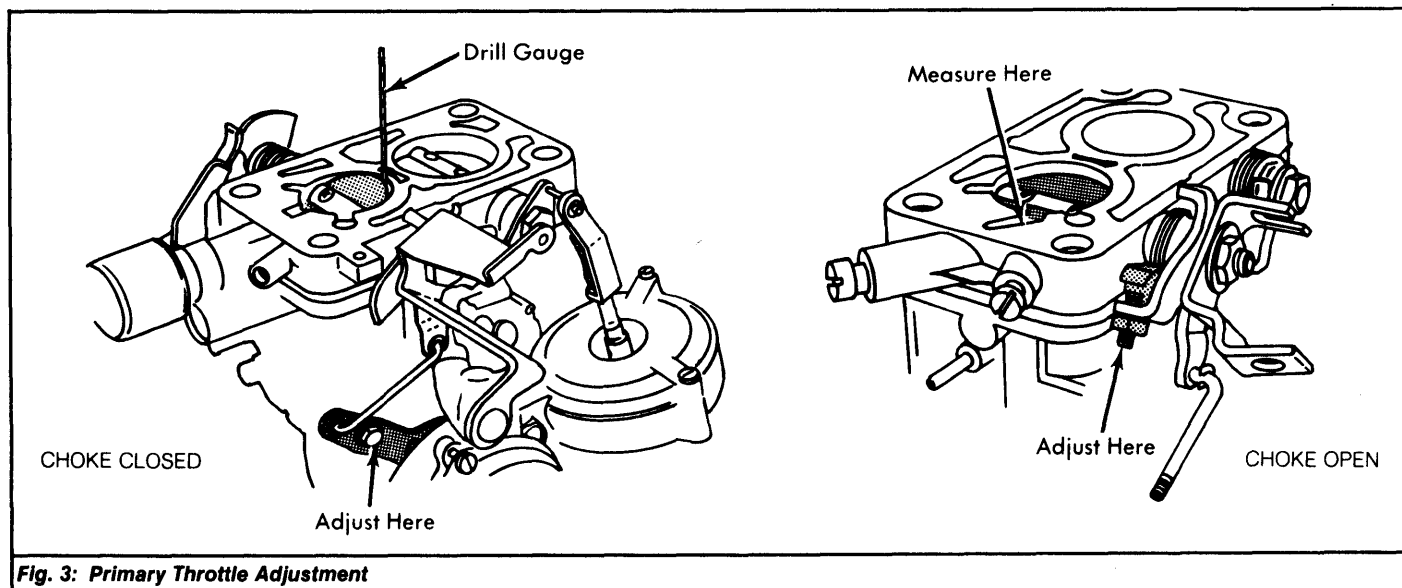

Fig. 3: Primary Throttle Adjustment
**Audi (Choke Open)** - 1) With carburetor removed and inverted, loosen lock nut and back out screw until it is free (with throttle valve lever closed). See Fig. 3.
**Audi & Dasher (Choke Closed)** - 1) With carburetor removed and inverted, close choke valve and measure primary throttle-to-bore clearance. See Fig. 3. Clearance should be .027-.030" (.69-.76 mm). If necessary, bend choke connecting rod to set throttle gap to proper specification.